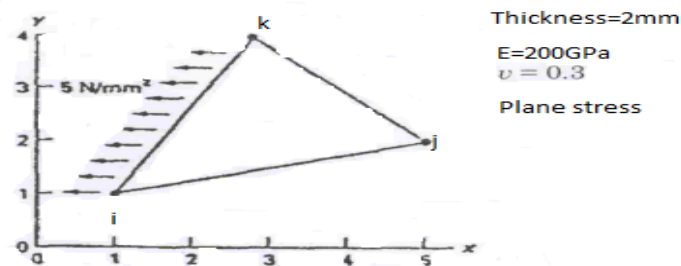

Figure.3
b. Compute the finite element equation for the LST element as shown in Figure.3